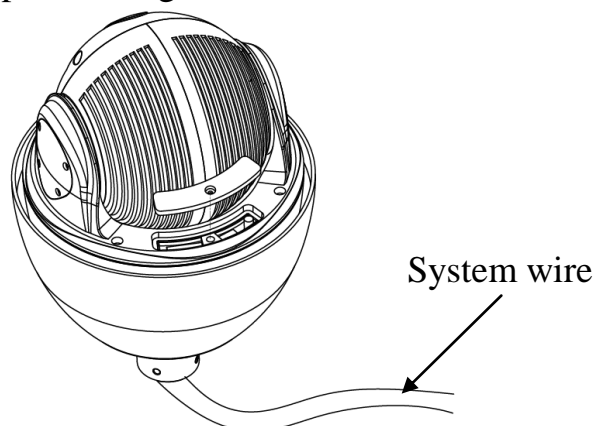

Figure 6
3. As figure 6 shows, please setup the related baud rate according to table 2 shows. And please ensure if the dome address is matched with your requiring address, if it's not matched; please setup according to the table 1.